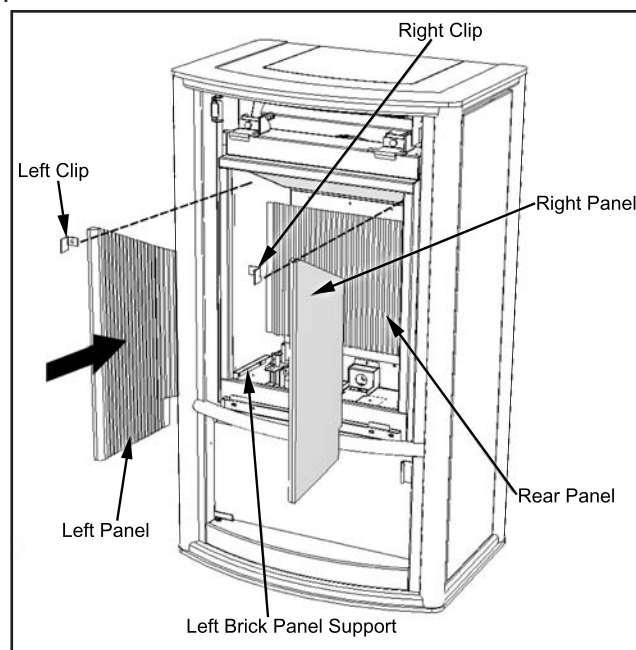

Figure 50: Firebox Liners Installation.
- While holding the rear ceramic liner from falling forward, install the left and right liners by sliding them in against the sides of the firebox and up to the rear liner (refer to Figure 50).